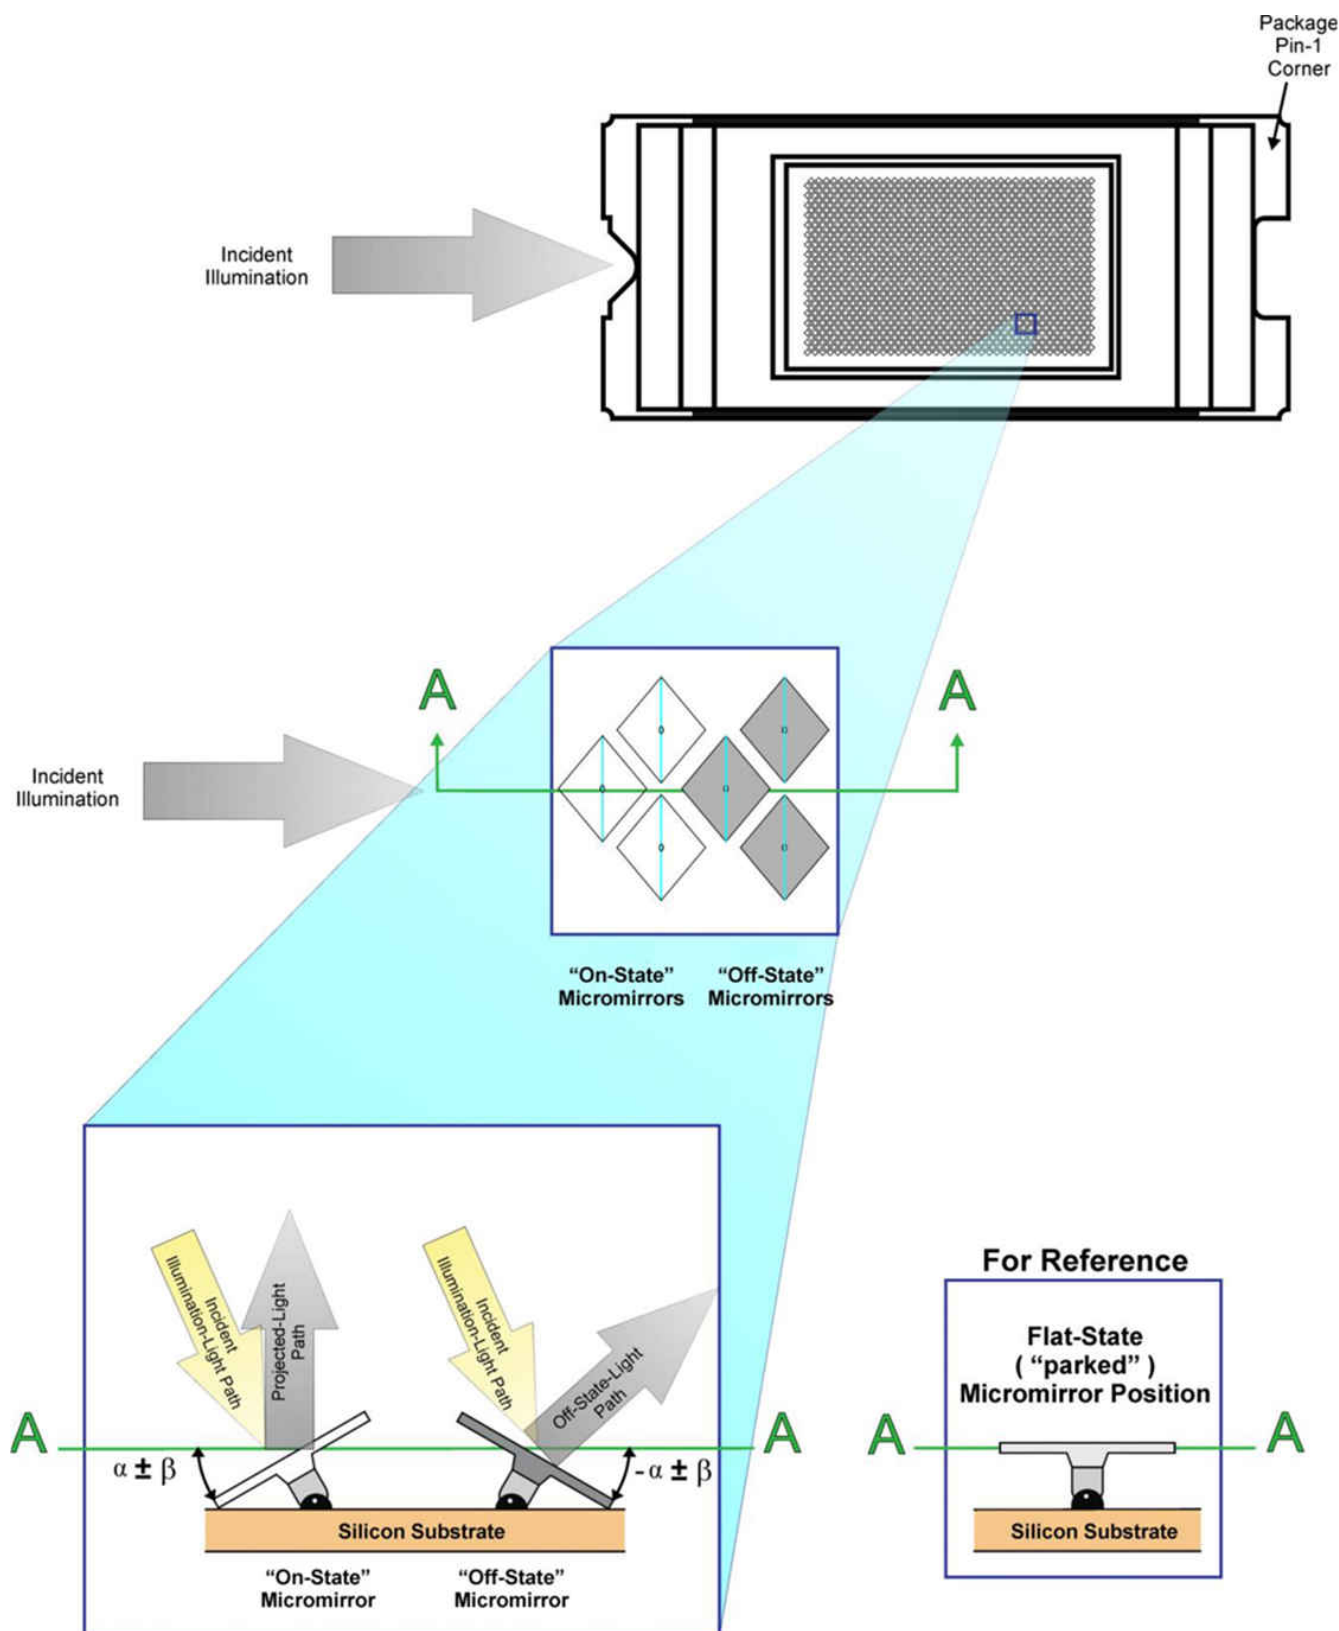

Figure 8-2. Micromirror Landed Positions and Light Paths
- (1) Measured relative to the plane formed by the overall micromirror array.
- (2) Micromirror crossover time is primarily a function of the natural response time of the micromirrors.
- (3) *Parking* the micromirror array returns all of the micromirrors to a relatively flat (0°) state (as measured relative to the plane formed by the overall micromirror array).
- (4) When the micromirror array is *parked*, the tilt angle of each individual micromirror is uncontrolled.
- (5) Additional variation exists between the micromirror array and the package datums.
- (6) When the micromirror array is *landed*, the tilt angle of each individual micromirror is dictated by the binary contents of the CMOS memory cell associated with each individual micromirror. A binary value of 1 results in a micromirror *landing* in an nominal angular position of +12°. A binary value of 0 results in a micromirror *landing* in an nominal angular position of –12°.
- (7) Represents the *landed* tilt angle variation relative to the nominal *landed* tilt angle
- (8) Represents the variation that can occur between any two individual micromirrors, located on the same device or located on different devices.
- (9) For some applications, it is critical to account for the micromirror tilt angle variation in the overall system optical design. With some system optical designs, the micromirror tilt angle variation within a device may result in perceivable non-uniformities in the light field reflected from the micromirror array. With some system optical designs, the micromirror tilt angle variation between devices may result in colorimetry variations or system contrast variations.
- (10) See Figure 8-2.
- (11) Performance as measured at the start of life.
- (12) Measured relative to the package datums B and C, shown in the Package Mechanical Data section in Section 13.
- (13) The nominal DMD total optical efficiency results from the following four components:
- (14) The DMD diffraction efficiency and total optical efficiency observed in a specific application depends on numerous application-specific design variables, such as:
Each micromirror is switchable between two discrete angular positions: -12° and 12° . The angular positions α and β are measured relative to a 0° flat reference when the mirrors are parked in their inactive state, parallel to the array plane (see Figure 8-2). The parked position is not a latched position. Individual micromirror angular positions are relatively flat, but do vary. The tilt direction is perpendicular to the hinge-axis. The on-state landed position is directed toward the left side of the package (see Figure 8-2).